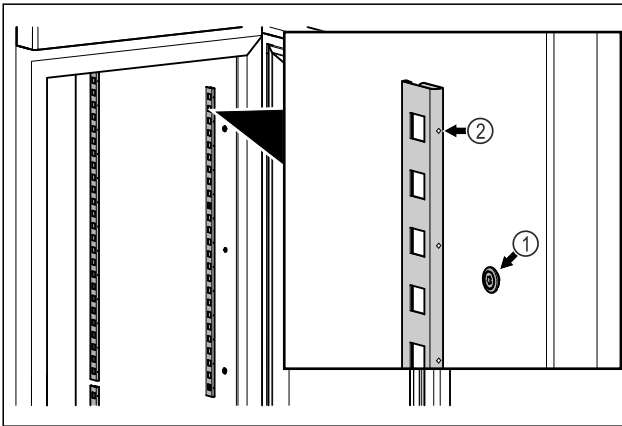

Fig. 81 Example illustration
- ▶ Hook the snap strips into the suspension Fig. 81 (1). Mark Fig. 81 (2) must point forwards.